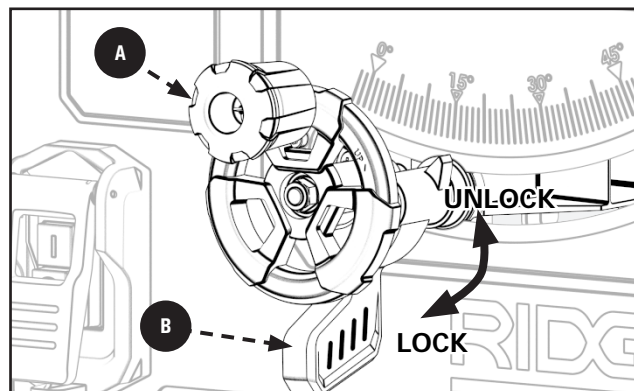

FIGURE 30
3. To adjust the height of the blade, refer to Figure 30 and do the following:
See Figure 30.